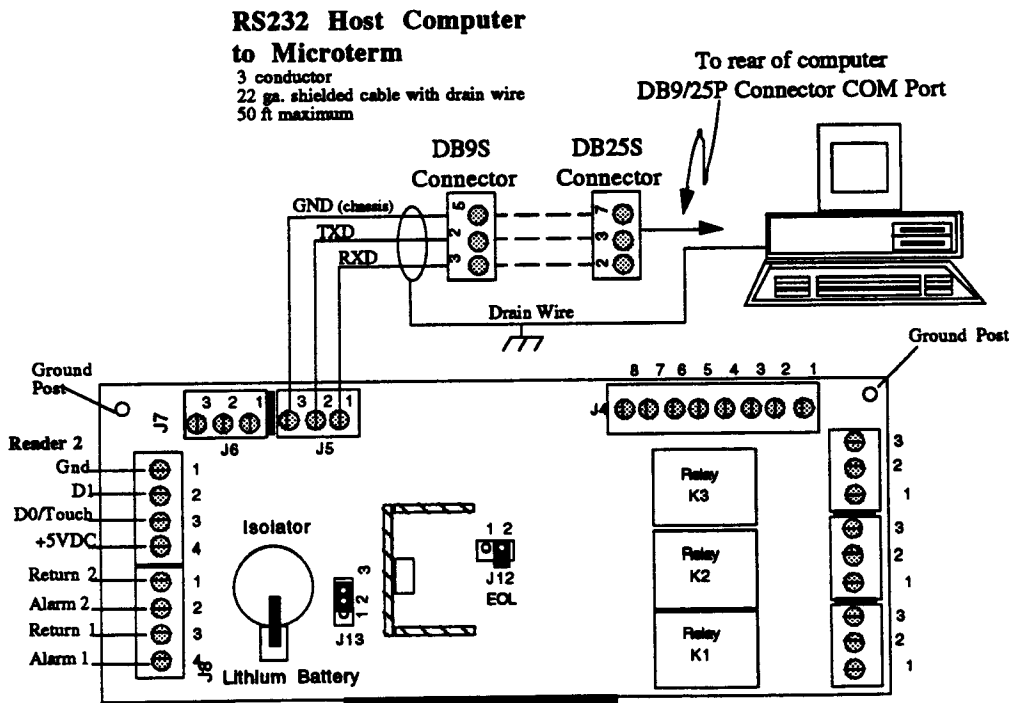

Figure 20 - Host Computer to Microterm
- 3. Connect the host computer to the Microterm as detailed in Table 3. Refer to Figure 20 for connections between the host computer and the Microterm. The host computer is typically connected to the RS-232 cable using a DB9-S or DB-25-S connector.